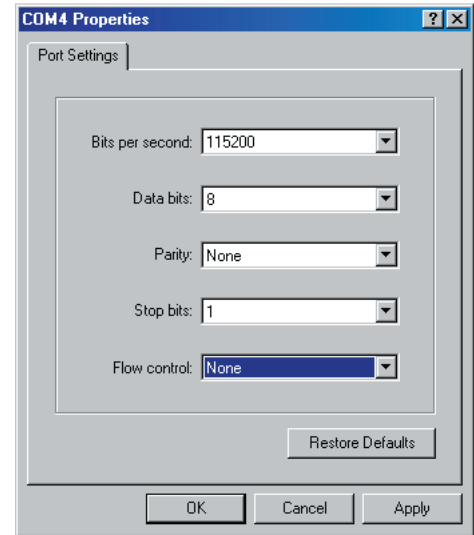

Figure 31. COMx Properties
5. In the **COMx Properties** window (Figure 31), select the following settings: